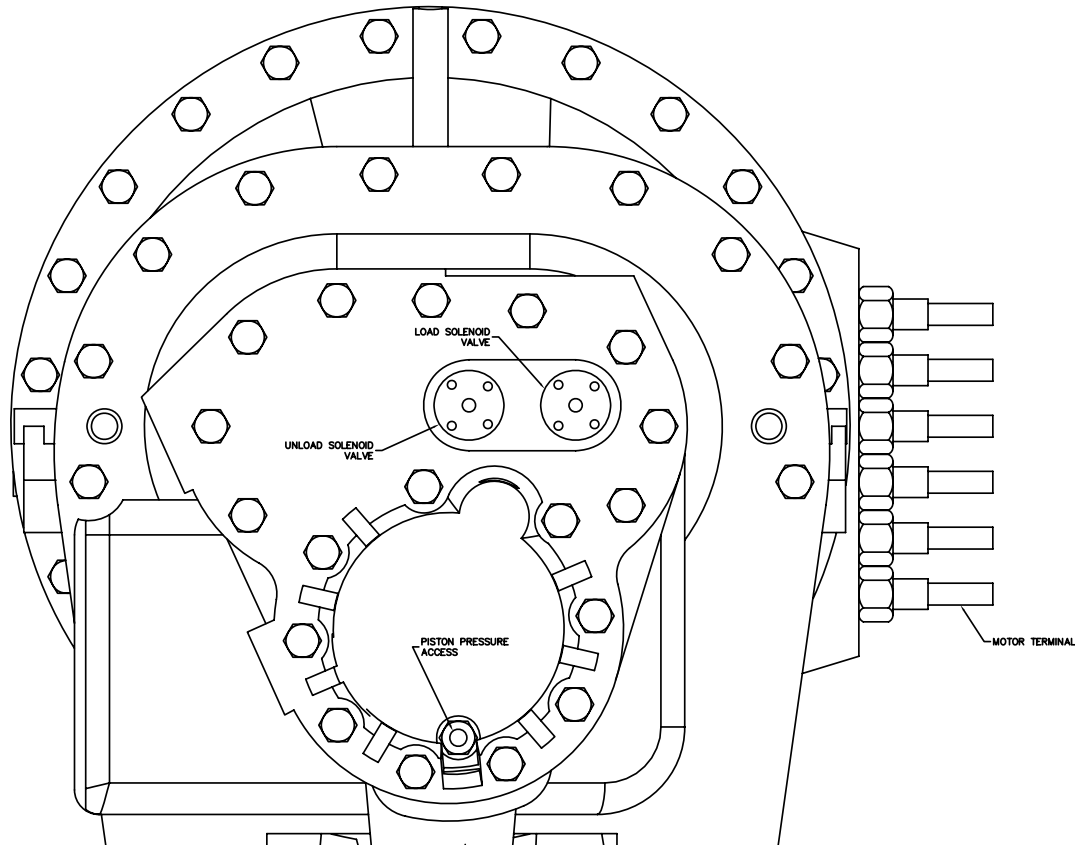

Figure 4. CHHC Compressor
- Connect a manifold gauge set to the schrader valve located at the end of the piston housing. This schrader allows access to the pressure behind the male piston. Refer to Figure 4.